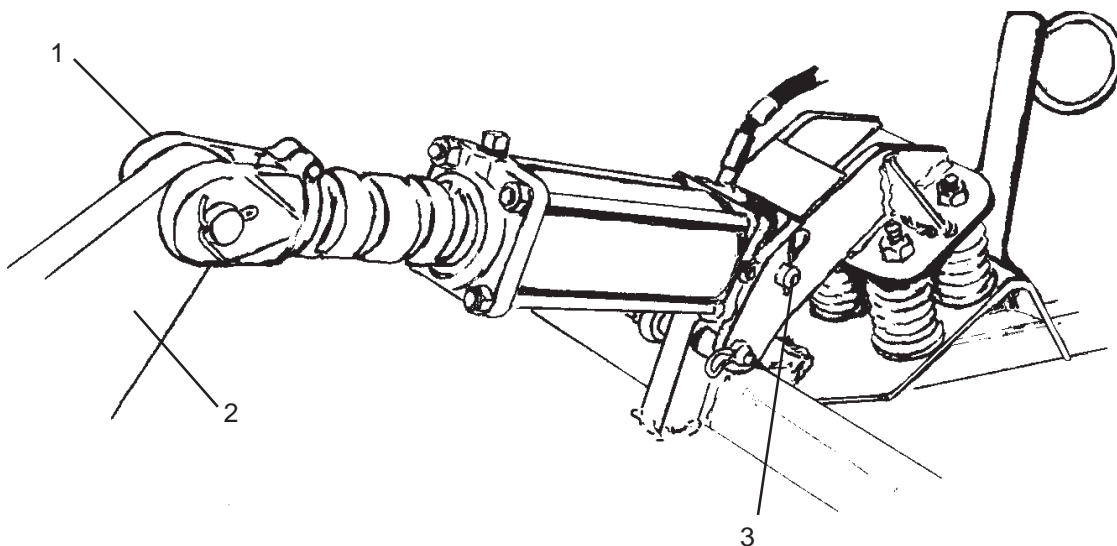

FIGURE 8. Center Axle Hydraulic Cylinder Attachment
Install the clevis rod end (1) of the 8" stroke Hydraulic Cylinder to the lug on the Center Axle (2). The clevis base fastens between the flats on Spring Assembly (3) on the Center Section. **FIGURE 8.**